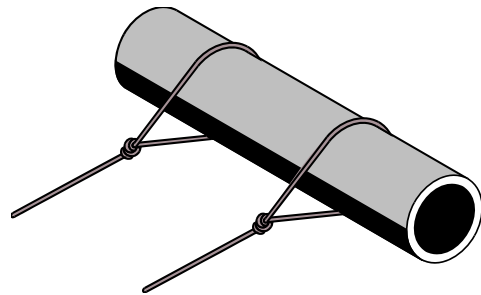

Figure 17 Deadman Crest Anchor
- Load transfer to crest anchorage is required when a driven anchor array is impractical (e.g. when a geomembrane or impervious material is present). See Figure 17.